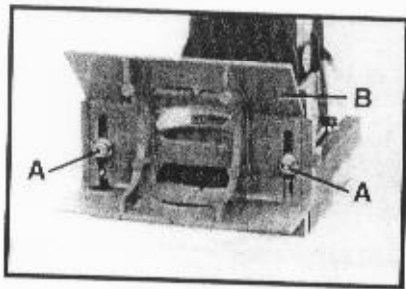

Fig. 4
The auxiliary fence (B) Fig. 4, is shipped assembled to the Plate Joiner as shown in Fig. 4. It will be necessary to remove the fence for some applications. Other applications will require the fence to be installed in an inverted position as explained on page 10 of this manual.
1. Use hex wrench (furnished with the Plate Joiner), to remove the two fence mounting screws (A) Fig. 4, from the Plate Joiner blade guard.
2. Use hex wrench (provided) to loosen the two fence retaining screws (A) Fig. 4, just enough to allow up and down movement of fence (B) Fig. 4.
NOTE: If joining material that is more than 1½" thick, remove the two fence retaining screws (A) Fig. 4, and reassemble in the upper mounting holes.
NOTE: The auxiliary fence is NOT used in this operation. Remove two retaining screws (A) Fig. 4, and the fence.